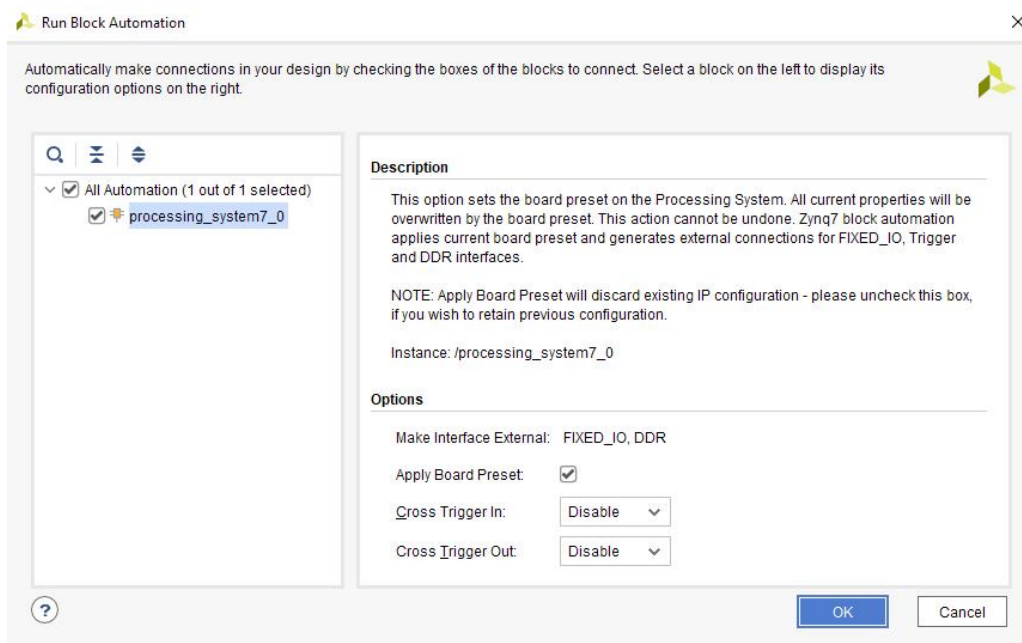

Figure 9
6. In the new **Run Block Automation** window make sure that **processing_system7_0** under **All Automation** in the panel to the left and **Apply Board Preset** in the panel to the right are checked. These options set the board preset on the Processing System. ZYNQ7 block automation applies current board presets and generates external connections for FIXED_IO, Trigger and DDR interfaces (Figure 9); the preset values are part of the Zybo Z7-10 board file